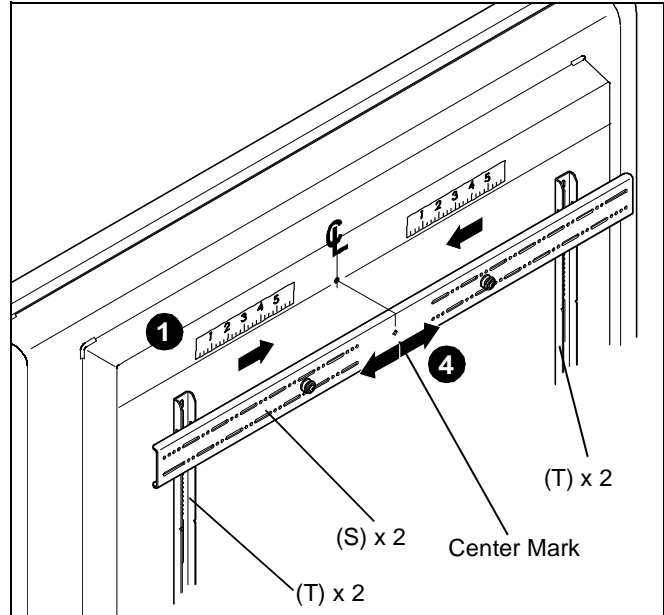
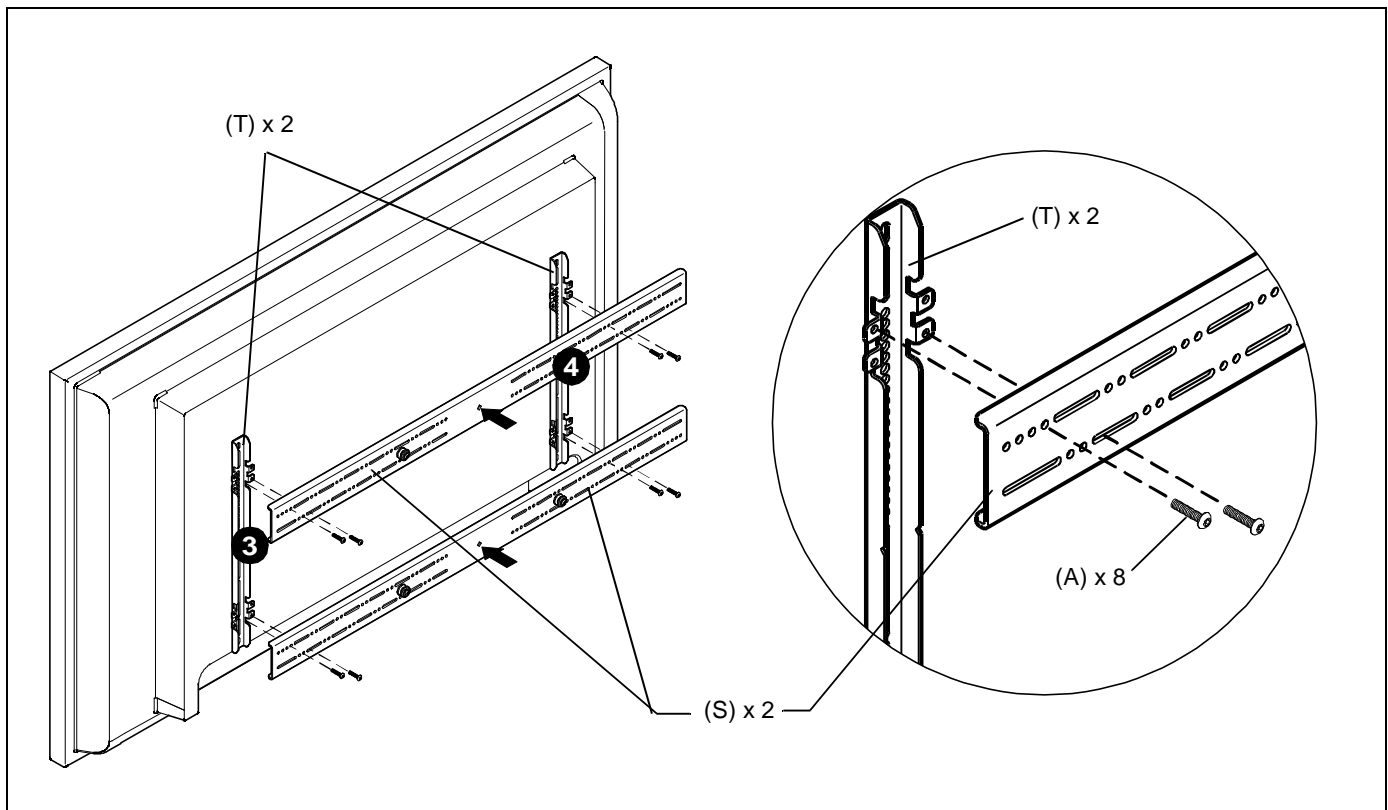

Figure 3
Figure 4
8. Determine and mark the horizontal center position between the Left and Right *TOP* mounting holes in display. (See Figure 3)
9. Determine and mark the horizontal center position between the Left and Right *BOTTOM* mounting holes in display. (See Figure 3)
11. Adjust Upper horizontal mounting bracket (S) position until center diamond in horizontal mounting bracket (S) aligns with mark made in step 8 and mounting holes and slots horizontal mounting bracket (S) are aligned with threaded holes in mounting tabs of left and right vertical mounting brackets (T). (See Figure 3) and (See Figure 4)
12. Secure upper horizontal mounting bracket (S) to left and right vertical mounting brackets (T) using four Button head cap screws (A). (See Figure 4)
13. Repeat steps 10 through 12 for lower horizontal mounting bracket (S).
IMPORTANT ! : The orientation of, and mounting holes used, when installing the lower horizontal mounting bracket must be the same as the upper horizontal mounting bracket. Vertically align upper and lower brackets by aligning holes or end of slots. (See Figure 4)
IMPORTANT ! : Whenever possible install mounting screws diagonally as shown in detail in figure 4 below.